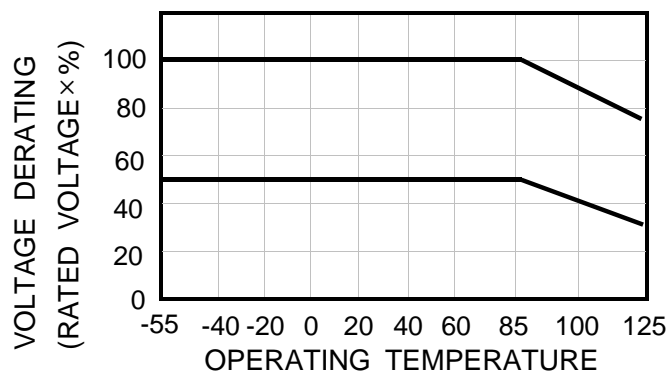

Fig. 3
▶ When the tantalum capacitors are to be used at an ambient temperature of higher than 85°C, the recommended operating range shown in Fig. 3 should not be exceeded.